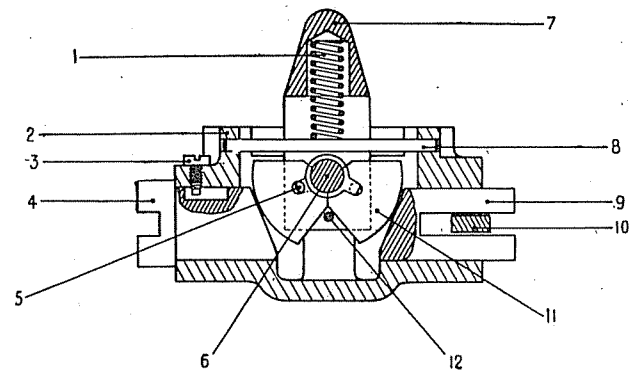

Fig. 23—The Bisector.
- (6) Insert pistons (9, 10) with slots in alignment and fit circlip (11).
- (7) Ease the rubber boot on to the handbrake lever and insert the lever into the body, ensuring the heel is adjacent to the handbrake piston (10).
- (8) Fit the boot into the groove formed in the body.
- (9) Smear the pin (4) with lubricant, instal through body and lever and fit circlip (3).
26. THE BISECTOR (Refer Figure 23).
27. DISASSEMBLY AND ASSEMBLY OF BISECTOR (Refer Figure 23).